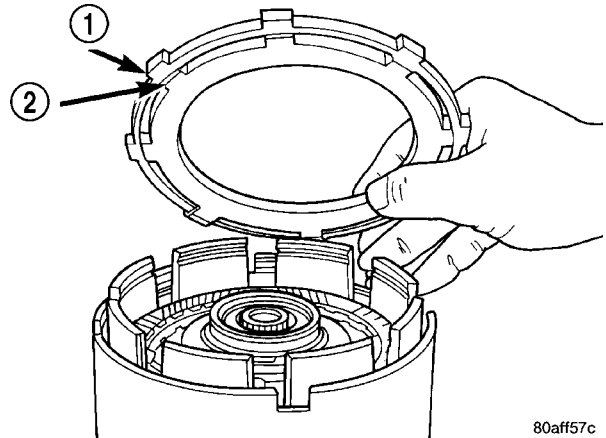

Fig. 238 OD/Reverse Reaction Plate
(23) Install the OD/Reverse pressure plate with large step down (towards OD clutch pack) (Fig. 238).